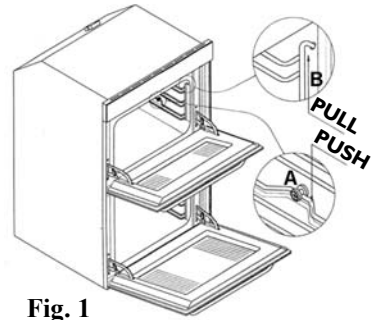
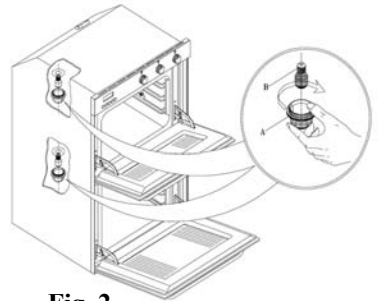

Fig. 1
Fig. 2
**Warning:** Disconnect the appliance from the power supply. To remove the side runner frame, push it simultaneously down and towards the centre of the oven (A-fig.1). Then lift the side runner frame upwards to release it from the cavity wall (B-fig.1). Remove the protective glass cover by turning it anti-clockwise. Unscrew the faulty bulb (fig.2) and discard safely, replace it with the new bulb and refit the cover. To refit the side runner frame, follow the steps above in reverse order.